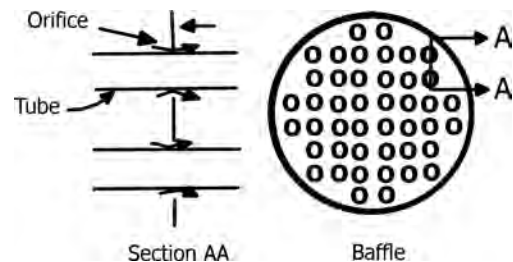

FIGURE 10.22 Orifice baffle.
- *Orifice Baffles:* In an orifice baffle, shell side fluid flows through the clearance between tube outside diameter and baffle hole diameter (Figure 10.22).